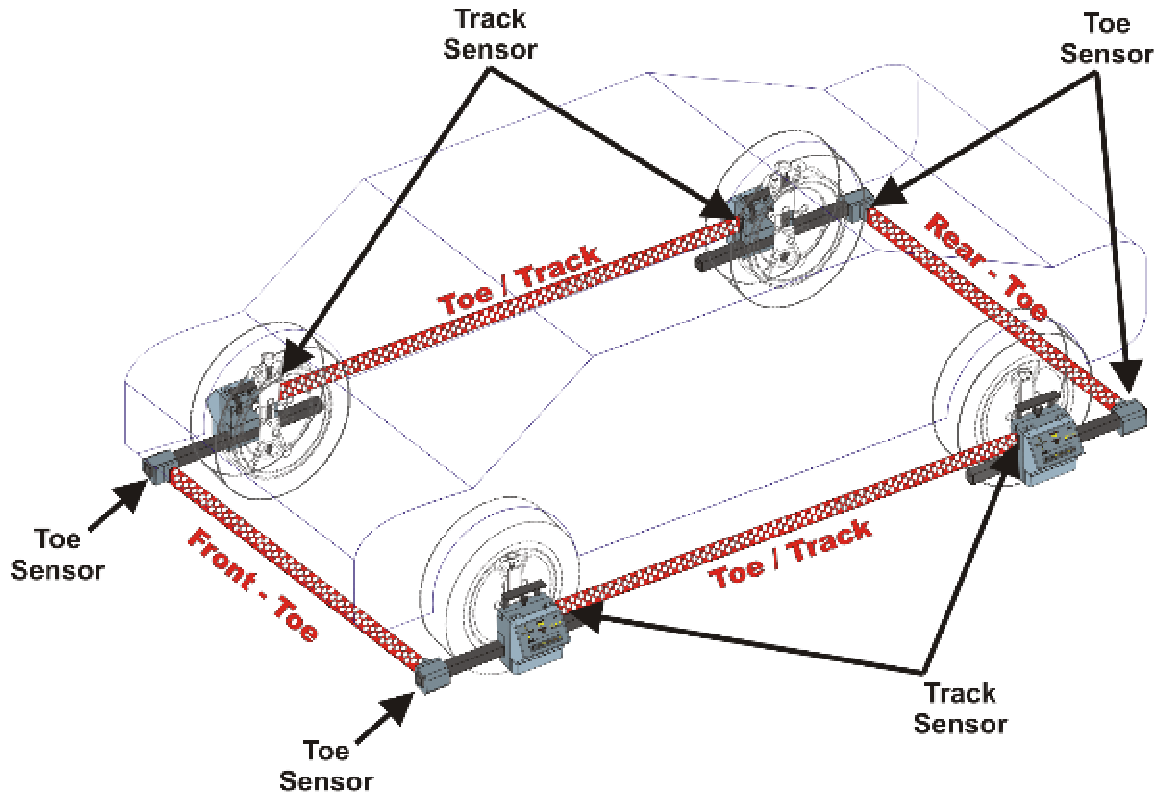

Figure 2-7. Wheel Units – On Vehicle Sensor Positions.
- 2.3.4 Sensor Units. Wheel alignment systems come paired in 2, 6 or 8 sensors, with the lower numbers limiting the number of suspension angles that can be measured. This unit is an 8-sensor system that measures completely around the vehicle. Refer to Figure 2-7.